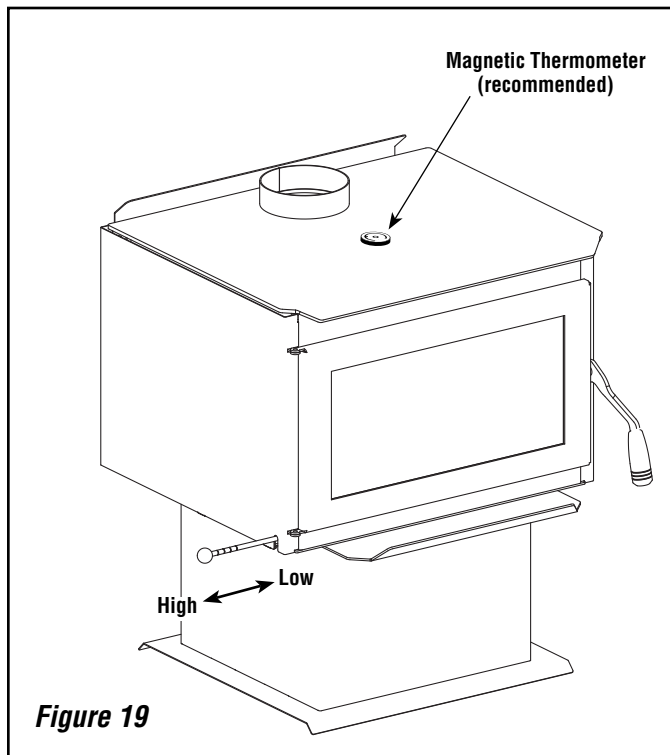

Figure 19
5. **When operating any wood burning appliance, it is important to become familiar with how the damper control affects heat output and the overall temperature of the appliance. A stove thermometer can be a helpful tool to help ensure you are not over-firing your appliance and it will also ensure you are burning fuel at a rate that is most efficient. Place a stove thermometer on the top of the appliance as shown in *Figure 19*. Monitor the temperature every 15 minutes or so until you become more familiar with your appliance. Close the damper all the way down if you begin to reach 600 degrees, as this is a sign that you are operating your appliance at too high a temperature.**